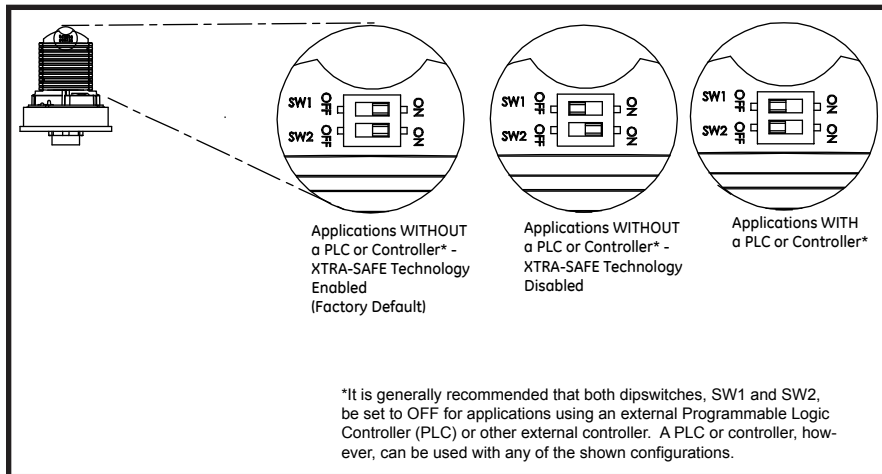

Figure 1. Dipswitch Settings
While in most cases, the added layer of safety gained by operating a multi-status indicator with XTRA-SAFE Technology is desirable, some applications may not require differentiation in flash rates. In other applications, changes do not correspond to escalating levels of urgency. The adaptive design of the new Chameleon 125 XBRI allows the product to be adapted to accommodate these requirements by configuring the dipswitches as shown in Figure 1 (Applications WITHOUT a separate PLC or Controller - XTRA-SAFE Technology Disabled). With XTRA-SAFE Disabled, when red or amber,
The Chameleon multi-status indicators can also be used in applications where they will be controlled "externally" using a Programmable Logic Controller (PLC) or other such external controller. When externally controlled by a PLC, activation of colors and flash-rate are fully customizable, and can be programmatically determined. In applications, where multiple colors are activated simultaneously, the lights operate on a priority with red highest, amber second and blue or green, the lowest. Refer to Figure 1 (Applications WITH a separate PLC or Controller).
The 125XBRI Multi-Status indicator is shipped with XTRA-SAFE Technology Enabled. The unit offers two other field selectable options: (1) for applications without a separate PLC or controller with the XTRA-SAFE Technology disabled or (2) for applications with a separate PLC or controller. For more information on the features, refer to the description. For settings, refer to Figure 1.